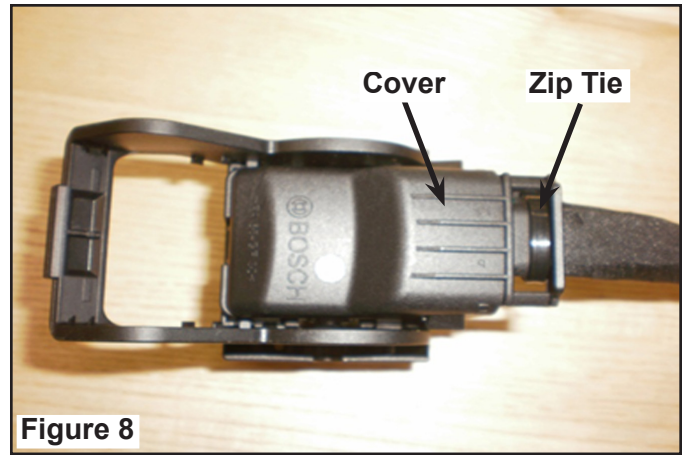

Figure 8
8. Put the cover on connector. Figure 8.